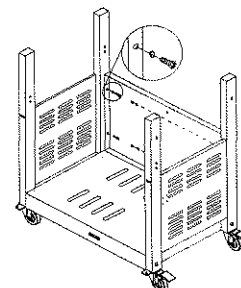

Figure 4
4. Secure back panel to side panels by using $\frac{5}{32}$ " x 15mm philips head screws. (Fig.4)